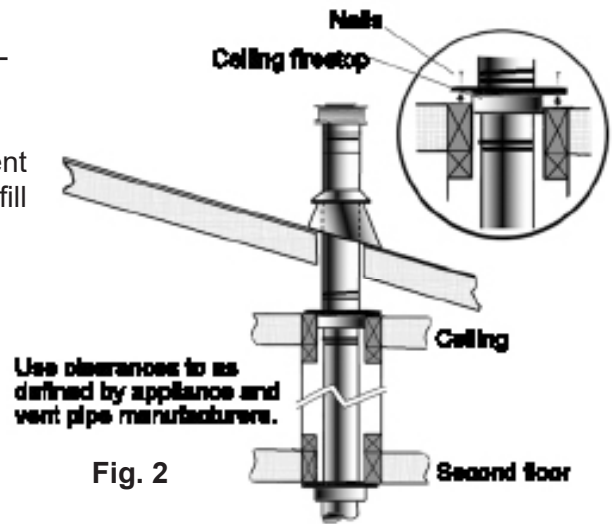

Fig. 2
- For multi story installations, a ceiling firestop is required at the second floor, and on any subsequent floors (Fig. 2).